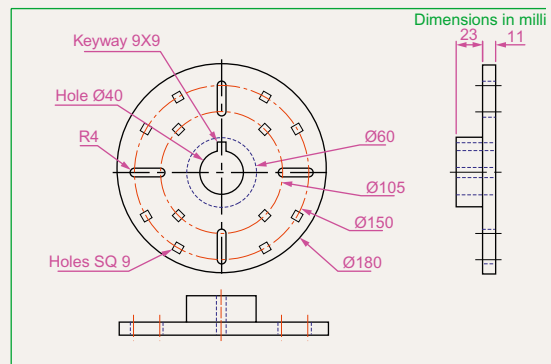

Fig. 13.20 Exercise 5 – dimensions
- Working in a **Three: Left** viewport setting, construct a 3D model of the faceplate to the dimensions given in Fig. 13.20. With the **Mirror** tool, mirror the model to obtain